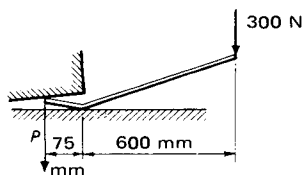

Fig. 2.44
1. In Fig. 2.44 a crowbar is being used to lift a heavy object. Find the force  $P$  which the crowbar applies to the object.